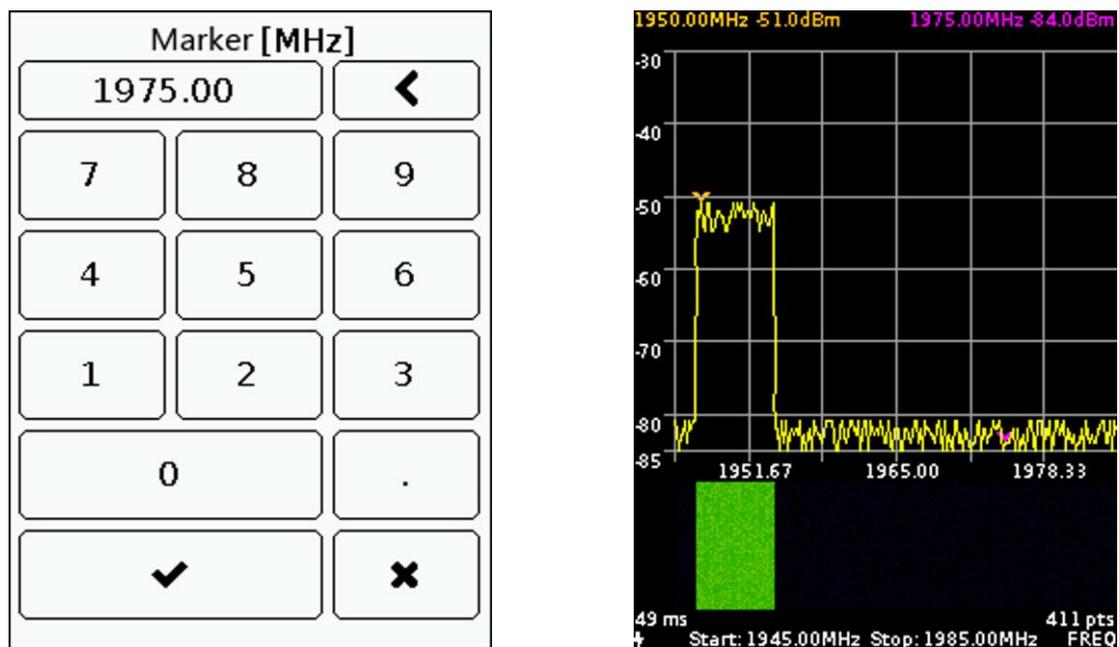

Figure 8.6.2 – Entering the marker frequency and displaying the markers on the screen
8.6.3. Setting the specified marker frequency is performed by entering a numeric value in the opened submenu, as in figure 8.6.2. Enter a numeric frequency value and press ✓ (**Data input**). To delete erroneous or previously entered values, press < (**Delete**). To refuse input a value, press × (**Cancel**). *In our example, in Figure 8.6.2, a violet marker 3 is installed in the «Point» mode at a frequency of 1975 MHz. The orange marker, working in the «Peak» mode, tracks the maximum signal.*